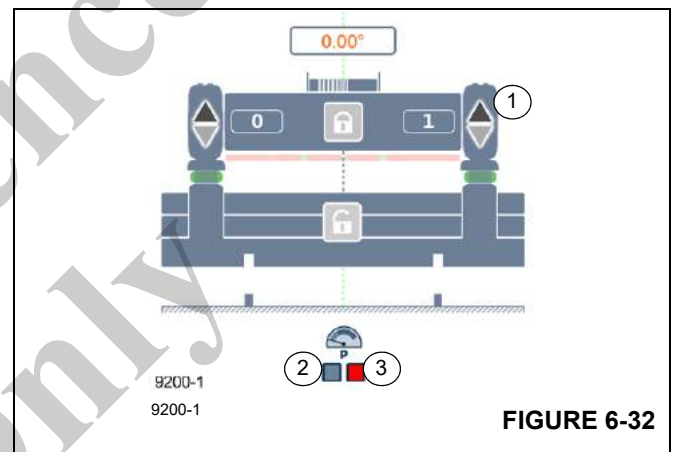

FIGURE 6-32
When the symbol (3), (Figure 6-32) is red, you must pre-tension the counterweight.
- Select and confirm the symbol (1) until the symbol (2) becomes green.